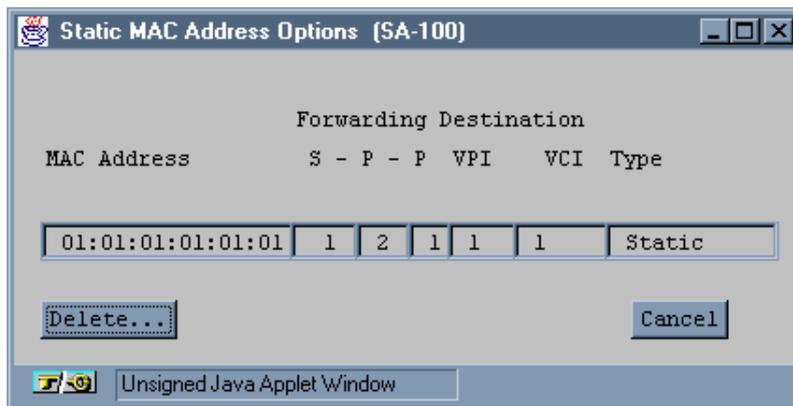

Figure 5-17. Static MAC Address Options Window
1. Select it from the Static MAC Addresses Table in the Static MAC Addresses window. The Static MAC Address Options window appears (Figure 5-17):